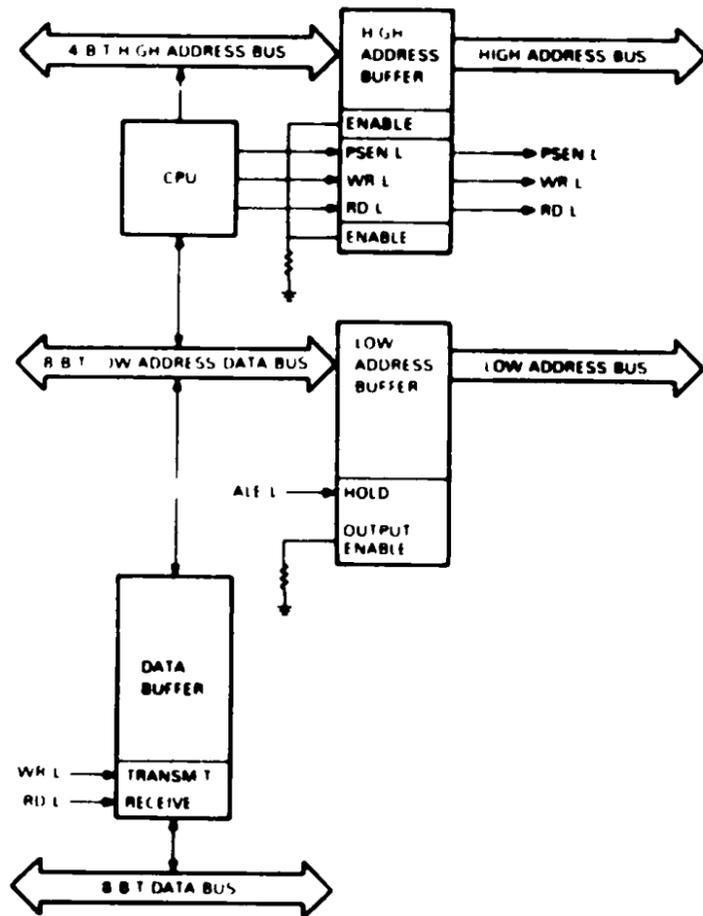

Figure 2-8 System Block Diagram with Buses and Buffers
Figure 2-8 shows the three buffers with the buses. Refer to this figure for the following discussion.
2.3.3.1 High Address Buffer (Figure 2-8) - This buffer is a dual 4-bit octal buffer. The CPU uses this buffer to drive the high address and three control signals to additional devices since the CPU cannot drive more than one TTL device. Since the chip enable circuits are tied low by a grounded resistor (soft ground), the signals are sent through this buffer as soon as they are emitted from port 2 on the CPU. The signals from the CPU on the high address bus are a 4-bit byte that uses half of the buffer. The other half drives the PSEN signal, the RD (read) signal, and the WR (write) signal. These signals are also sent through the buffer as soon as they are emitted from the CPU.